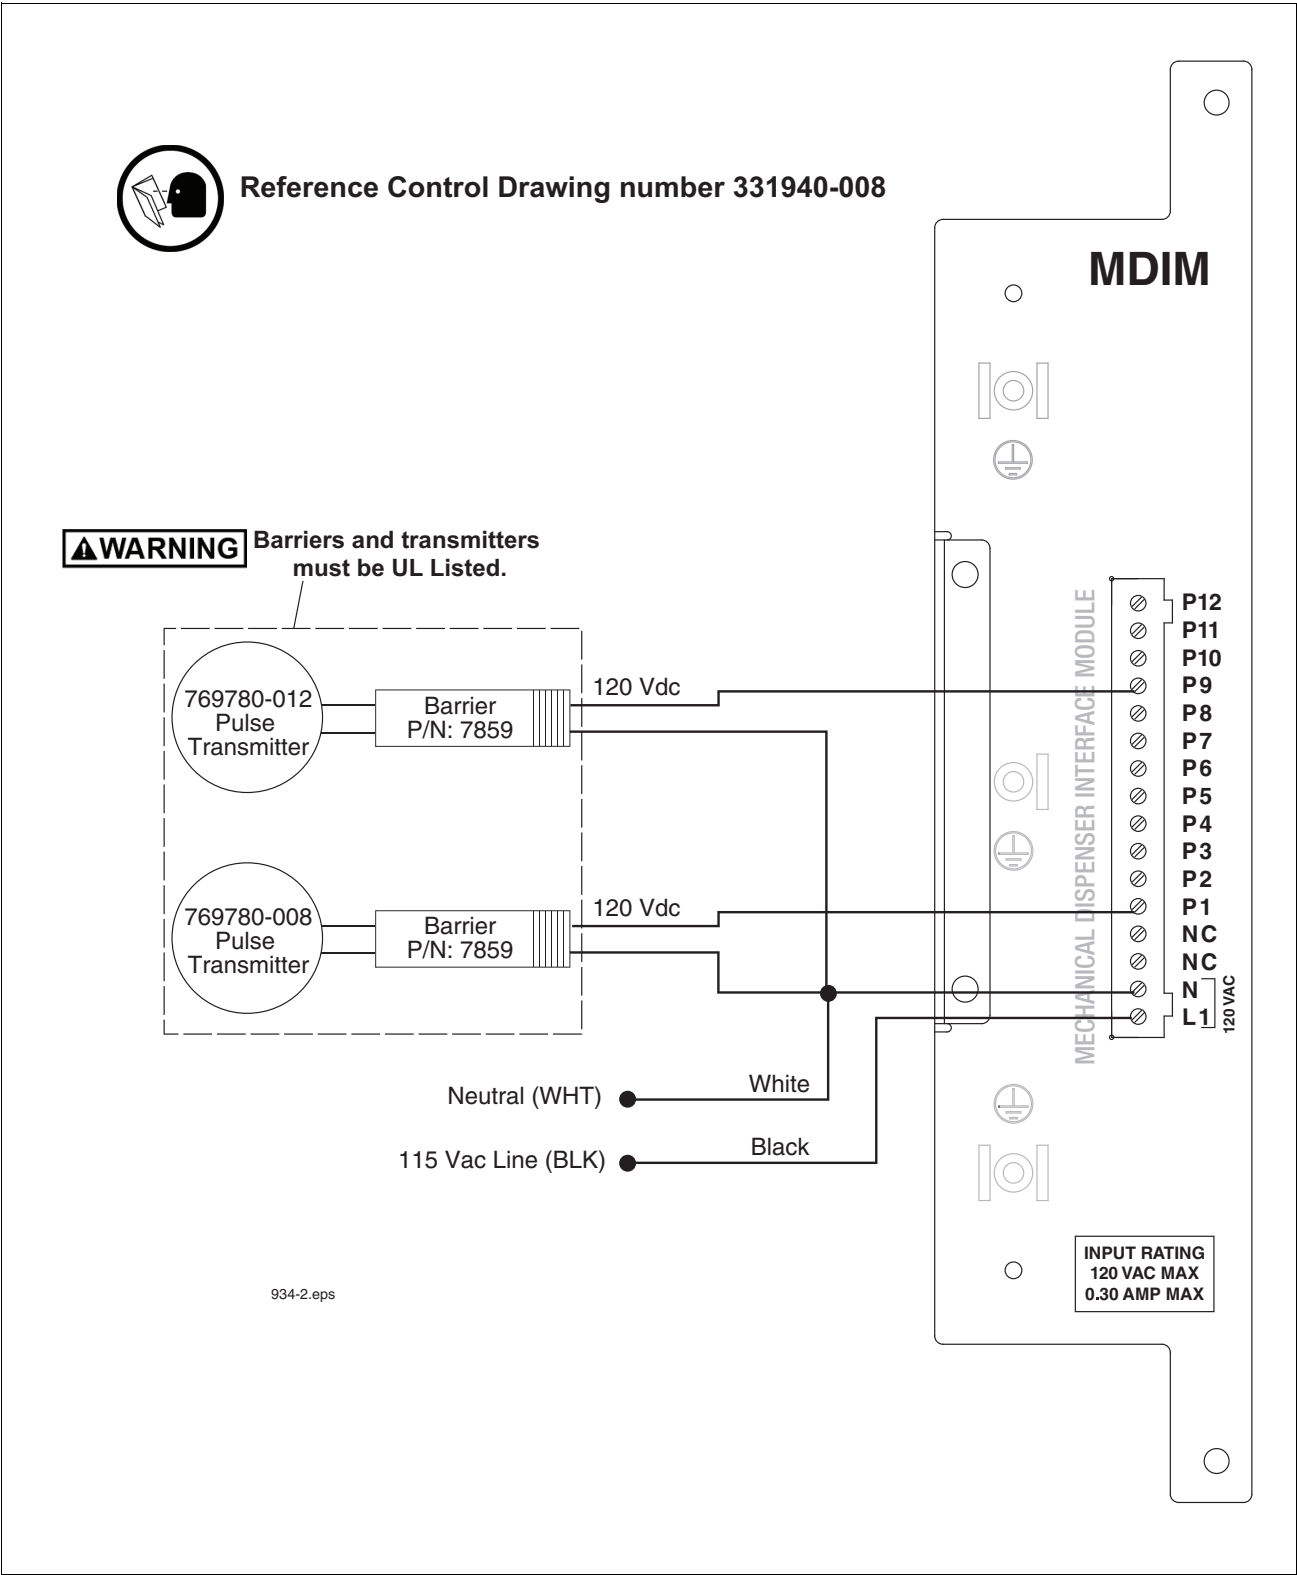

Figure 45. Connecting devices to the MDIM module
- Figure 45 - MDIM module wiring connections